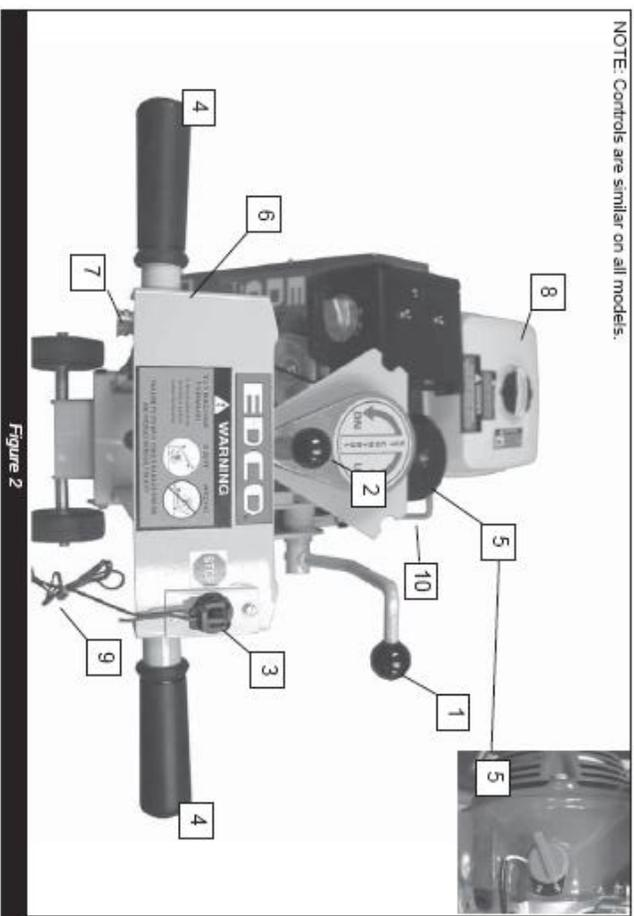
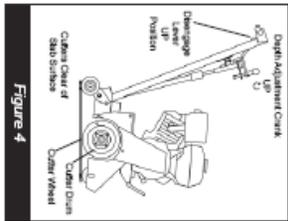

Figure 2
Figure 4
- Slowly lower the cutter head to the slab surface with the cutter head lever. (Figure 2, Item 1 & Figure4)